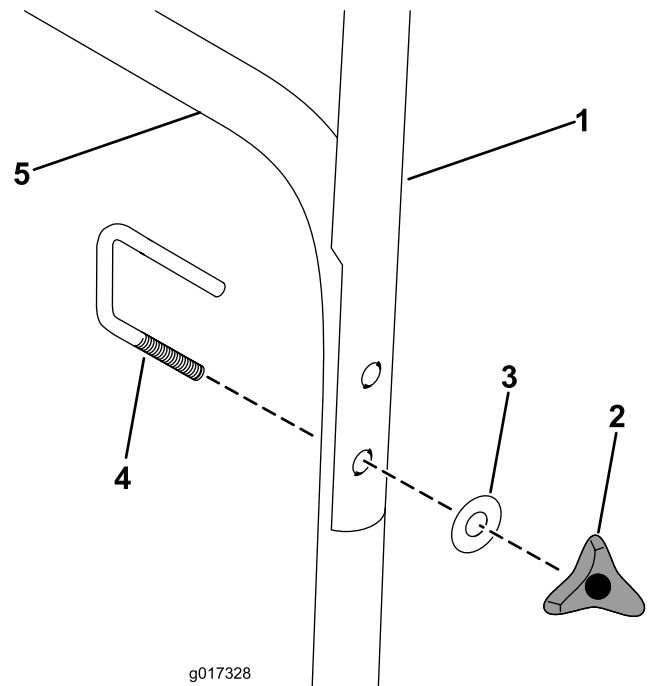

Figure 4
4. Align the holes on the upper handle with the lower handle (Figure 4).
5. Fit the U bolt through the upper and lower handle and secure it with a washer and a hand wheel (Figure 4).